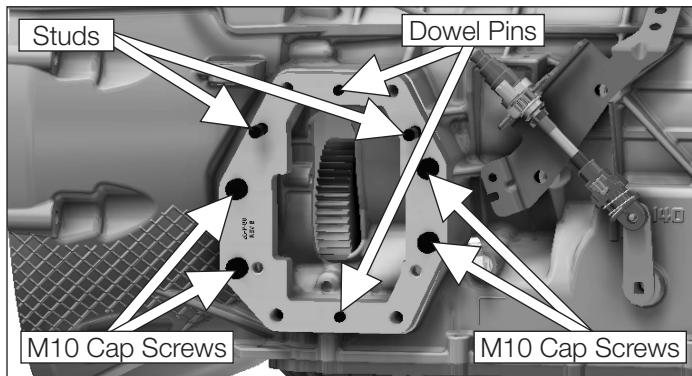

Figure 37
- 6a. Install studs and 8 mm dowel pins into mounting plate. Thread studs until hand tight (**Fig. 37**).